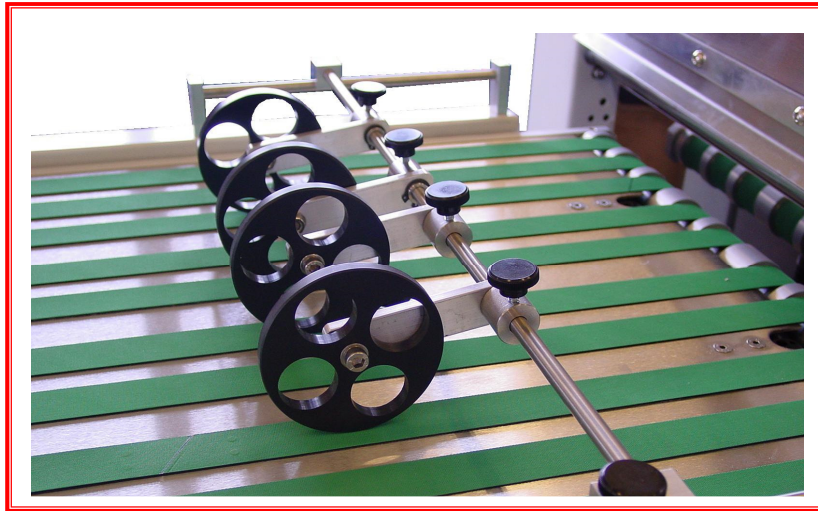

Fig 1.7 Entrapment Wheels and Thumbscrews
- Feed one form onto the conveyor and set the entrapment wheels as follows. Unclamp each entrapment wheel by loosening each thumbwheel (Fig 1.7). Slide each wheel to the required position such that when a sheet of paper is fed onto the machine bed, the wheels entrap it. Re-clamp each wheel. Set the mode and speed as required.